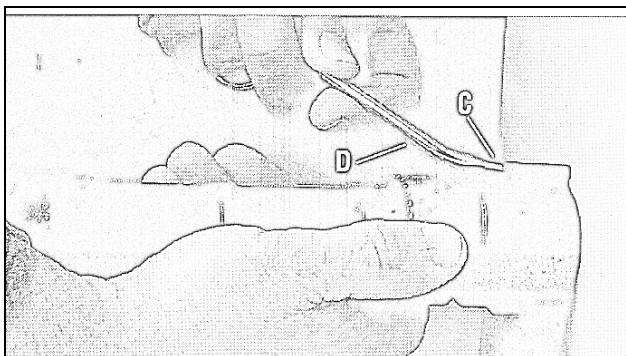

Figure 2.2
- 2-3.4. Connect S75 plasma gun. Attach the male connector (torch side) to the female one (machine side). Make sure that the positioning pin aligns with the corresponding notch, then use enclosed tool (D) to disengage the anti-rotation device by pressing it on proper hole (C). To disconnect torch also need press enclosed tool to the hole. Finally, remove the tool and continue to fasten the ring until hear clicking. See figure 2.2.